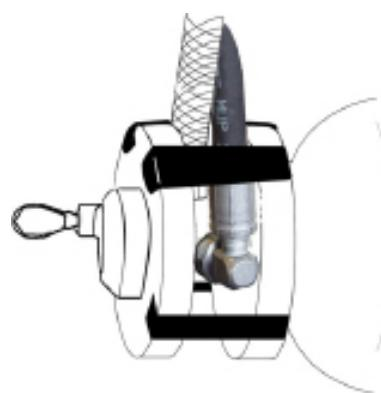

FIGURE A7-8
- 2.9 Insert two protection pads onto operating head. Make sure that the inflation hoses by pass each other as shown. Refer to FIGURE A7-8. Tape both pads together at either side of the upper buoyancy hose. Use 100 mm (4") adhesive tape. Lay the liferaft flat on the table again.